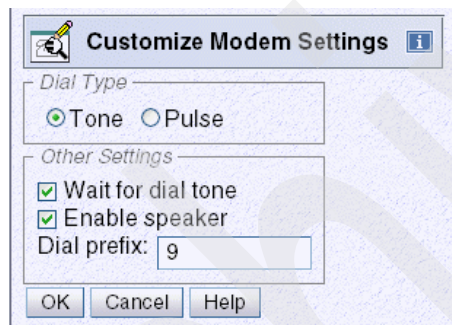

Figure 2-18 Modem settings
4. Click **Modem Configuration**. Select the options to configure your modem (Figure 2-18).